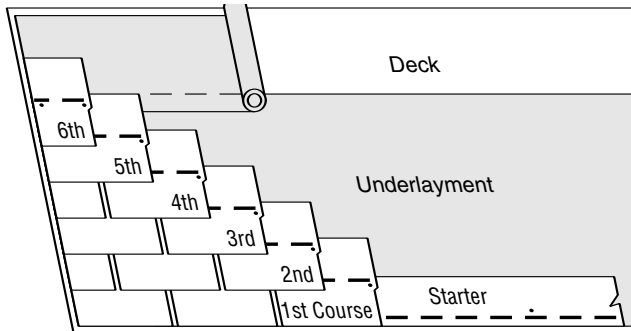

Figure 10-16: Half-Tab Method.
- Continue with full-length starter-strip shingles along the eaves. (*Figure 10-16*).
**1ST COURSE:** Apply a full shingle at the lower left corner of the roof, tabs flush with the starter course (*Figure 10-16*).
**2ND COURSE:** Cut 69/16" (half of a tab) off the left end of a shingle and apply the remaining piece over the first-course shingle, flush with the left edge and exposing the first course 55/8" (*Figure 10-16*).
**3RD THROUGH 6TH COURSES:** Each succeeding course, up to and including the sixth course, should start with a shingle one-half of a tab (69/16" ) shorter (cut-off from the left end) than the previous course (*Figure 10-16*). Expose each course 55/8".